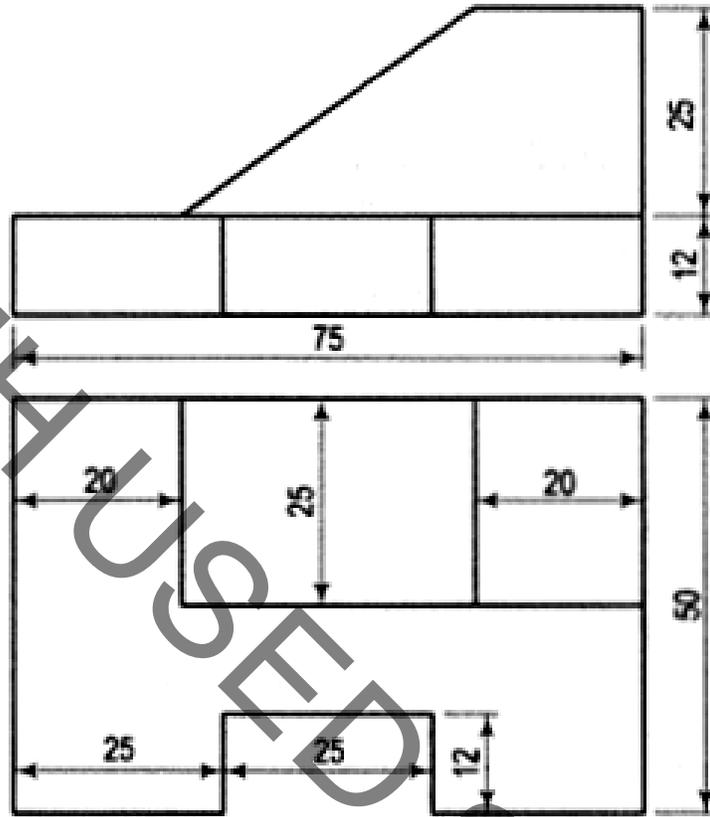

Figure: 1
5. Draw the Isometric view of the machine parts shown in figure 1. All dimensions are in mm. [25]